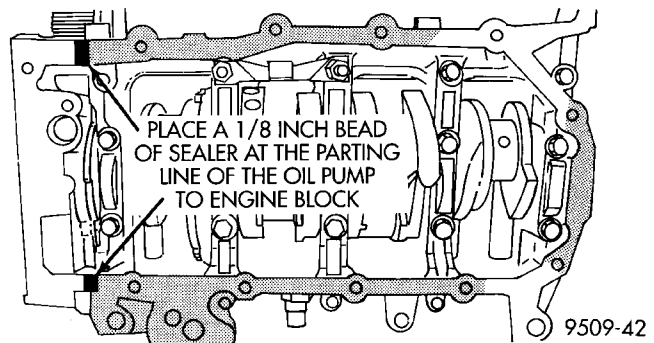

Fig. 55 Oil Pan Sealing
(1) Apply Mopar Silicone Rubber Adhesive Sealant or equivalent at the oil pump to engine block parting line (Fig. 55).